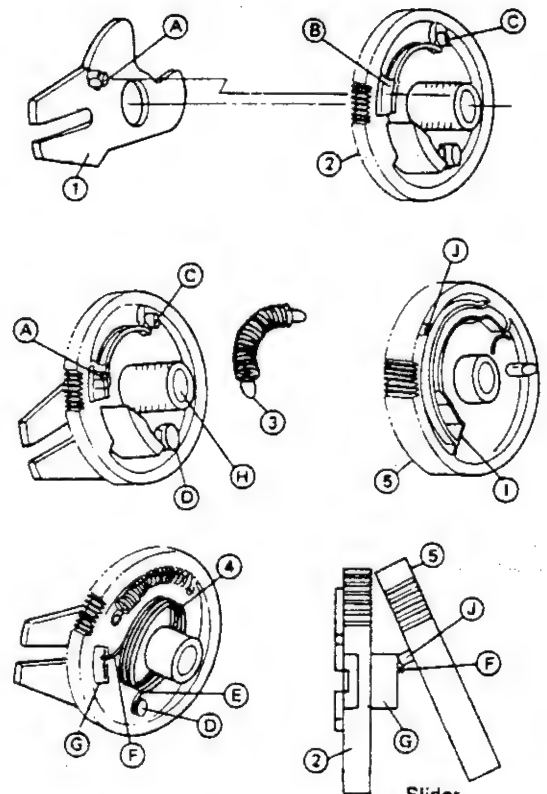

Figure 1-3.
• Set up of worm wheel assembly (Fig. 1-3)